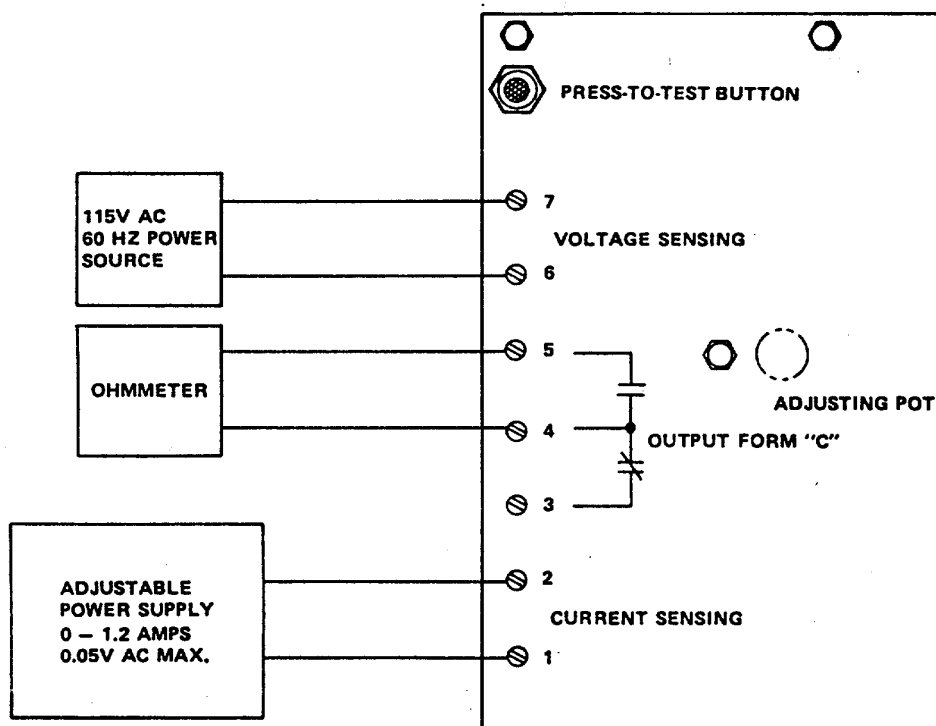

Figure 5-11. Reverse Power Relay K112, Test Setup
- (1) Polarity and Reverse Power Circuit Test.
- (a) Connect a 0 to 1.2 amp, 0.05V AC maximum, power source to terminals 1 and 2 (see figure 5-11). Connect a 115V AC, 60